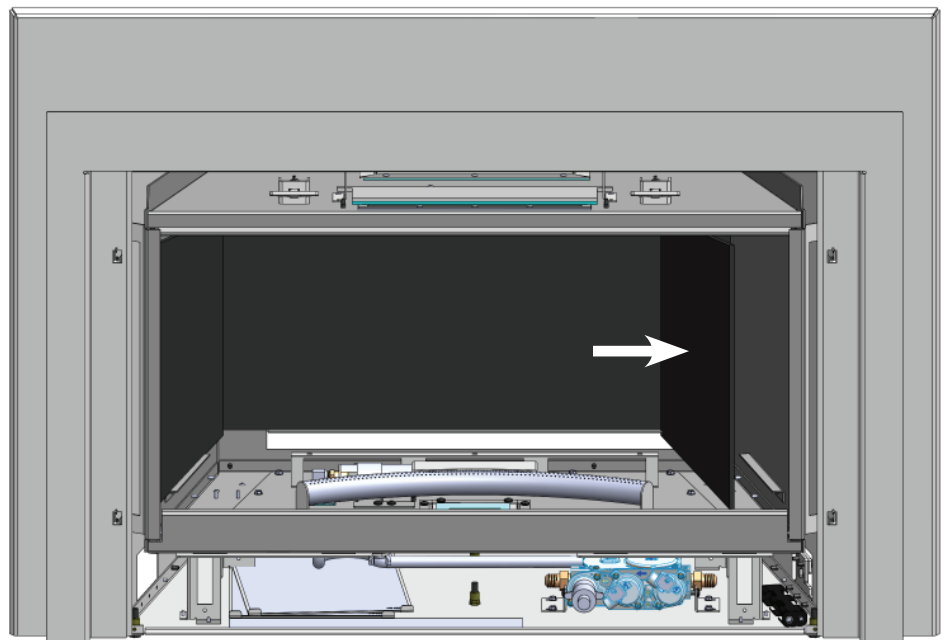

Fig.4
6. Loosen the top right tab, install the right glass panel up under the tab and onto the support. (Fig.4)